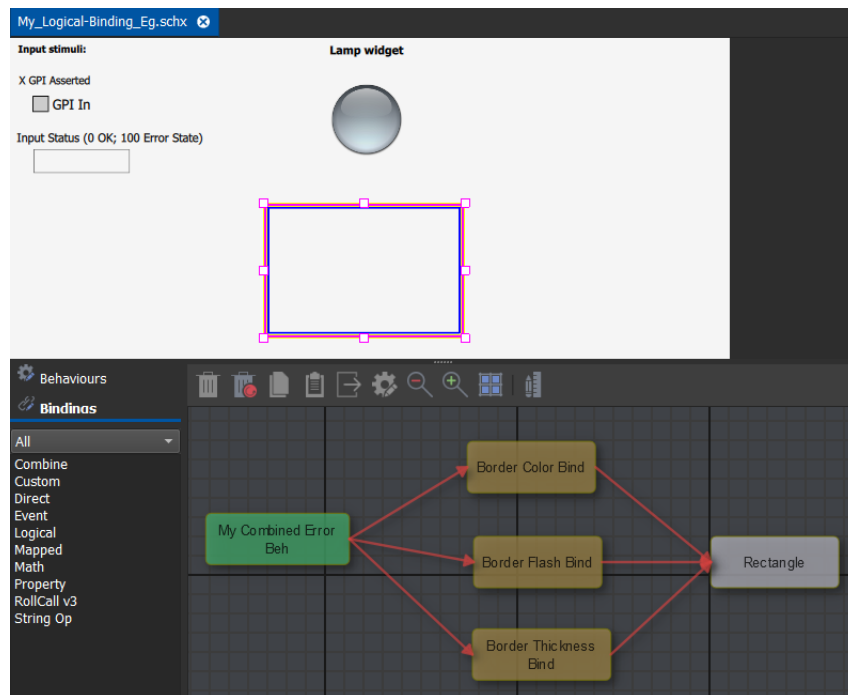

Fig. 7-23: Adding a Rectangle
- 3 Add three **Property** Bindings. (See Figure 7-23.)